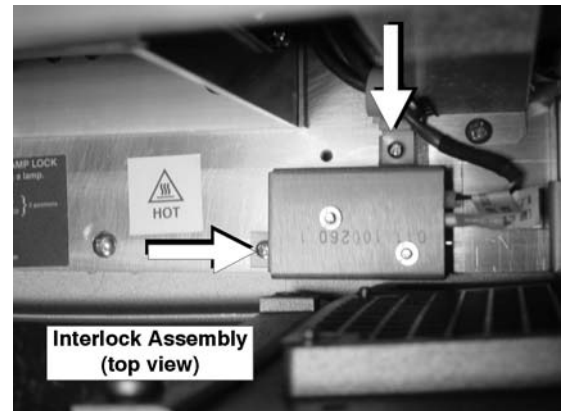

Figure 51. Remove Lamp Interlock Switch
2. Loosen the two (2) captive screws securing the lamp door.
3. Remove the two (2) screws securing the lamp interlock assembly to the base. (Figure 51.) Remove the assembly.
4. Flip the assembly over and remove the two (2) screws securing the switch to its housing.